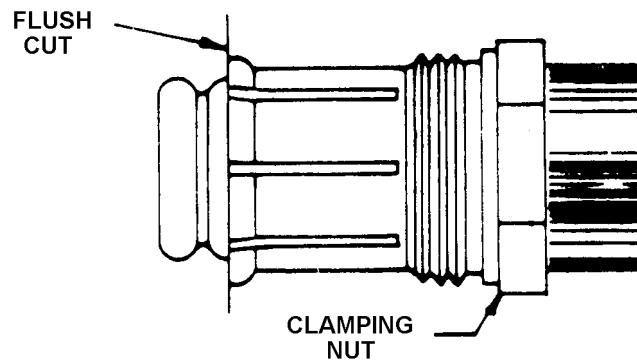
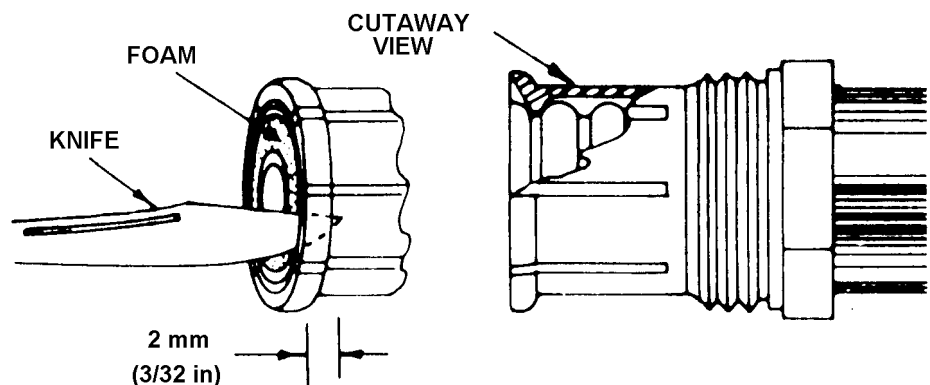

Figure 1.23 - Adding the Clamping Nut and Cutting the Cable
Figure 1.24 - Detaching Foam and Removing Burrs
- 8.4 Push the clamping nut onto the cable, using a twisting motion to ensure that the spring contacts snap into the first groove (see cutaway view in Figure 1.24). Grip the clamping nut with one hand and align the edge with the line scribed in sup-para. 4.2 above. Using a hacksaw with a fine-toothed blade, carefully cut the cable flush with the end of the clamping nut (see Figure 1.23).
- 8.6 Use a knife to remove all burrs from the inside edges of the outer and inner conductors. Use a wire brush or scraper to remove all copper particles from the foam (Figure 1.23).